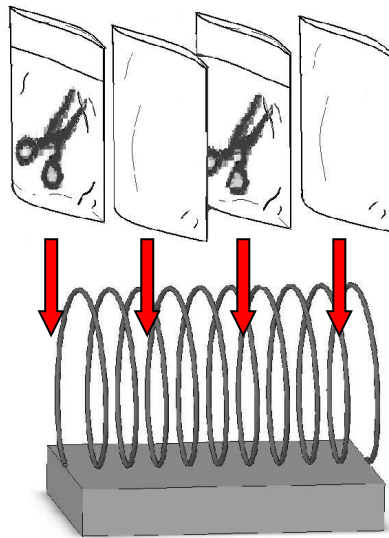
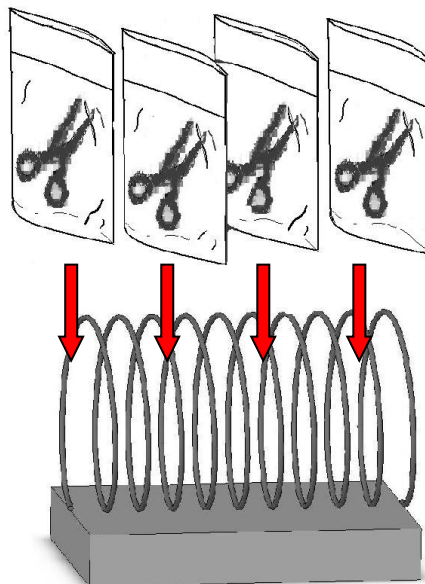

Figure 28
Figure 29
**Warning:** We suggest using Spring Holder for items with sterilizing pouches to assure sterilization result. Follow Figure 28 or Figure 29 to place each pouch separately. Spring holder is available as an optional accessory.